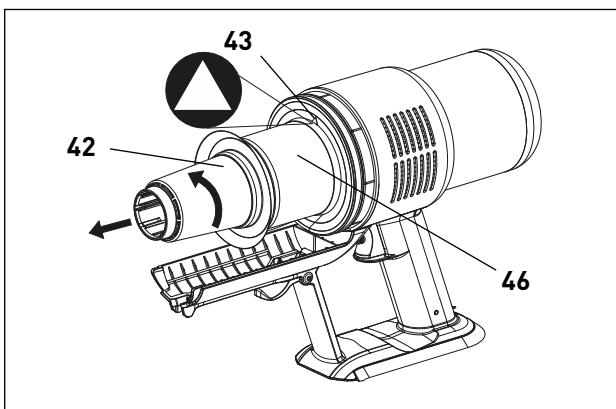
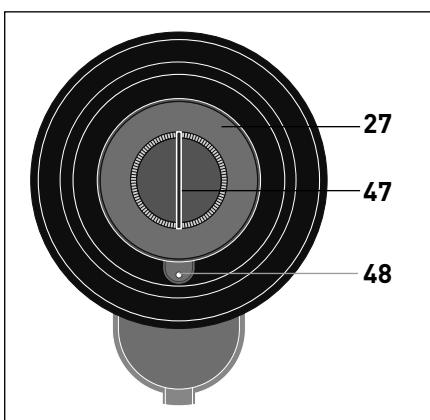

Figure 17
Figure 19
**Cleaning out the Cyclone Unit - Figures 13-18** - Dust can accumulate in the cyclone unit (42). To remove the cyclone unit for cleaning, remove the adapter and dust bin (figures 13-16). Unlock the cyclone unit by gripping the front plastic cone and turning counterclockwise until the arrow (43) aligns with the open lock symbol (44) on the housing (figures 17 & 18).
**Changing the Motor Protection Filter - Figures 13-19** - To remove the motor protection filter (27), remove the adapter and dust bin (figures 13-16). Remove the cyclone unit (figures 17 & 18). The filter can be simply pulled out with the handle (#47 figure 19). When inserting the new filter, line the notch (48) on the filter with the indentation on the filter housing.
**Changing the Micro Hygiene Filter - Figures 13-17, 20** - To remove the micro hygiene filter (28), remove the adapter and dust bin (figures 13-16). Remove the cyclone unit (figures 17 & 18).